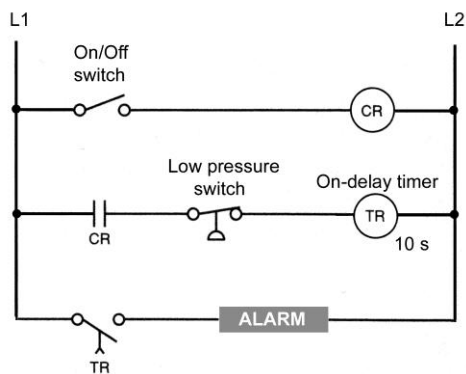

Figure 15-32 Hardwired TON alarm circuit for assignment 8.
8) Prepare an I/O connection diagram and ControlLogix program that will simulate the operation of the hardwired TON alarm circuit shown in Figure 15-32 and described in the text. Utilize field devices found on your ControlLogix installation. Enter the program into the controller, and monitor its operation.